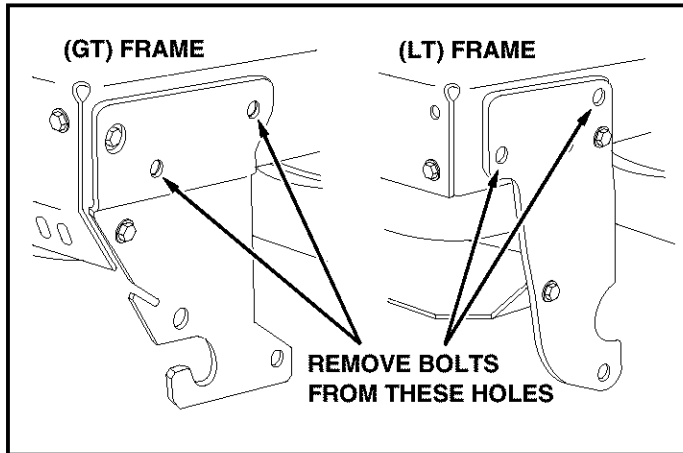

FIGURE 2
Front mower suspension brackets for both GT and LT tractors are shown in figure 2. Use a bumper mounting bracket to help identify the correct mounting holes.
- Remove bolts on both sides of the tractor from two holes shown in figure 2.